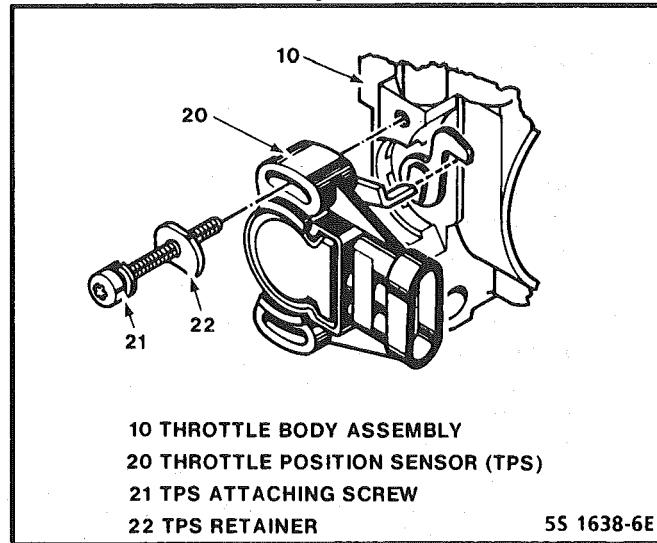

Figure C1-13 - Throttle Position Sensor Service
1. With throttle valve in the normal closed idle position, install throttle position sensor on throttle body assembly, making sure TPS pickup lever lines up with tang on throttle actuator lever. (See Figure C1-13)